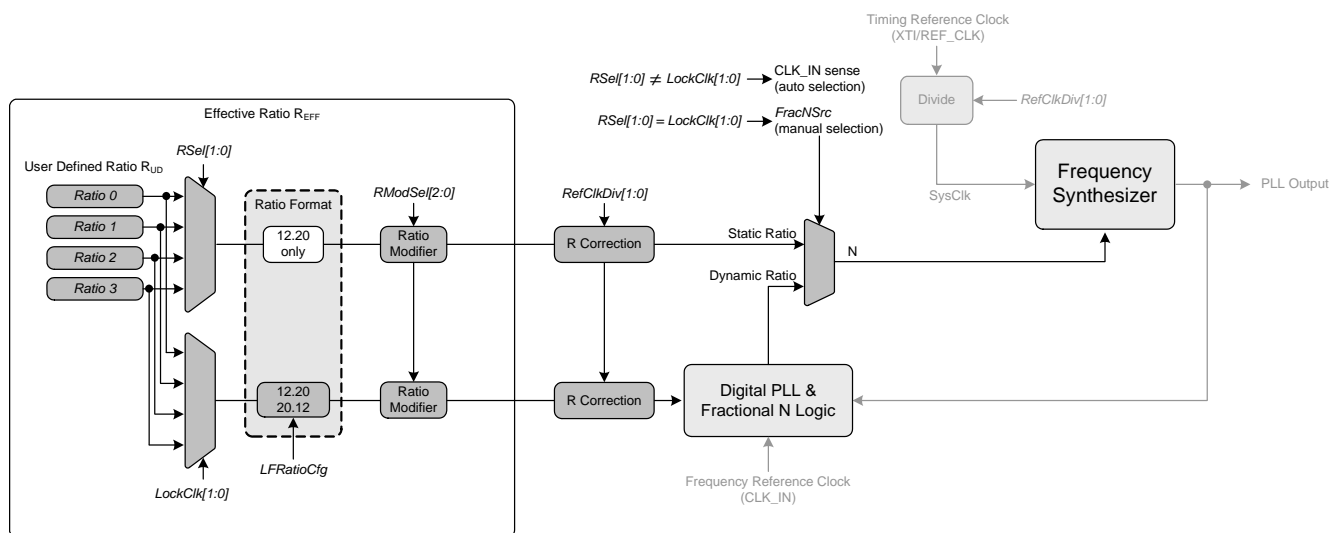

Figure 18. Ratio Feature Summary
To select between the static ratio based Frequency Synthesizer Mode and the dynamic ratio based Hybrid PLL Mode, the source for the fractional-N value for the Frequency Synthesizer must be changed. The Fractional-N value can either be sourced directly from the Effective Ratio (static ratio) or from the output of the Digital PLL (dynamic ratio) (see Figure 18 on page 22). The setting of this function can be made manual or automatically depending on the presence of CLK_IN.
The R_{UD} is the user defined ratio for which up to four different values ($Ratio_{0-3}$) can be stored in the register space. The $RSel[1:0]$ or $LockClk[1:0]$ bits then select the user defined ratio to be used (depending on if static or dynamic ratio mode is to be used). The resolution for the R_{UD} is selectable, for the dynamic ratio mode, by setting $LFRatioCfg$. R-Mod is applied if selected. The user defined ratio, and ratio modifier make up the effective ratio R_{EFF} , the final calculation used to determine the output to input clock ratio. The effective ratio is then corrected for the internal dividers. The frequency synthesizer's fractional-N source selection is made between the static ratio (in frequency synthesizer mode) or the dynamic ratio generated from the digital PLL (in Hybrid PLL mode) by either the $FracNSrc$ bit for manual mode or the presence of CLK_IN in automatic mode. The conceptual diagram in Figure 18 summarizes the features involved in the calculation of the ratio values used to generate the fractional-N value which controls the Frequency Synthesizer.
- Changes made to the registers which affect the Fraction-N value that is used by the Frequency Synthesizer. This includes all the bits shown in Figure 18 on page 22.